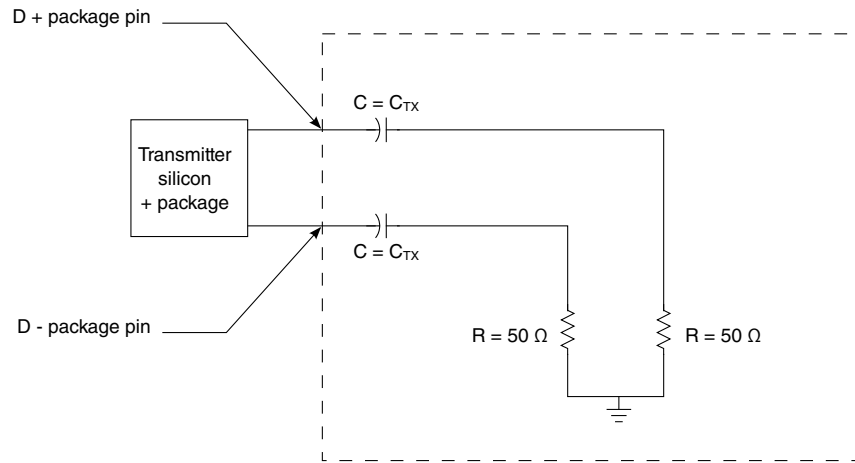

Figure 40. Test/measurement load
1. Specified at the measurement point into a timing and voltage test load as shown in Figure 40 and measured over any 250 consecutive transmitter UIs.
<p>1. Specified at the measurement point and measured over any 250 consecutive UIs. The test load in Figure 40 must be used as the receiver device when taking measurements. If the clocks to the receiver and transmitter are not derived from the same reference clock, the transmitter UI recovered from 3500 consecutive UI must be used as a reference for the eye diagram.</p> <p>2. A $T_{RX-EYE} = 0.40$ UI provides for a total sum of 0.60 UI deterministic and random jitter budget for the transmitter and interconnect collected any 250 consecutive UIs. The $TRX-EYE-MEDIAN-to-MAX-JITTER$ specification ensures a jitter distribution in which the median and the maximum deviation from the median is less than half of the total. UI jitter budget collected over any 250 consecutive transmitter UIs. It must be noted that the median is not the same as the mean. The jitter median describes the point in time where the number of jitter points on either side is approximately equal as opposed to the averaged time value. If the clocks to the receiver and transmitter are not derived from the same reference clock, the transmitter UI recovered from 3500 consecutive UI must be used as the reference for the eye diagram.</p> <p>3. It is recommended that the recovered transmitter UI is calculated using all edges in the 3500 consecutive UI interval with a fit algorithm using a minimization merit function. Least squares and median deviation fits have worked well with experimental and simulated data.</p> <p>4. For recommended operating conditions, see Table 3.</p> <p>5. The $TRX-EYE-MEDIAN-to-MAX-JITTER$ for common and separated reference clock architecture.</p> <p>6. If spread spectrum clocking is desired, common clock receiver architecture must be used.</p> <p>7. The AC specifications do not include Refclk jitter.</p>